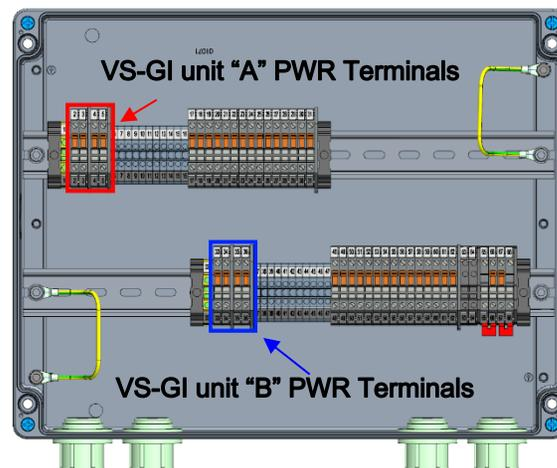

Figure 2-10. Power Terminals Inside VS-DX J-Box
- For the VariStroke being withdrawn only, open the knife terminals [POWER] in the junction box (VariStroke A terminals # 2 through 5, 4 terminals) or (VariStroke B terminals #33 through 36, 4 terminals); (Figure 2-10) [notate result in Checklist: ID #15].